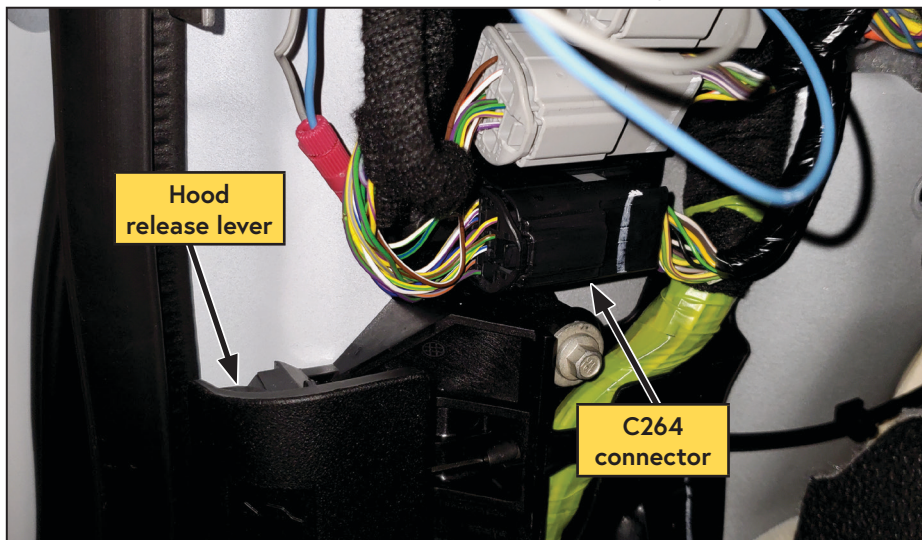

Figure 48 — Locate C264 connector
- ☐ Remove the kick panel beside the hood release lever (Figure 48).